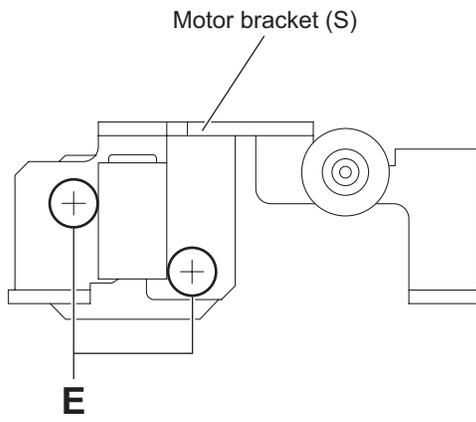

Fig.9
- Remove the two screws **E** attaching the motor and remove the motor from the motor bracket (S). (See Fig.9.)